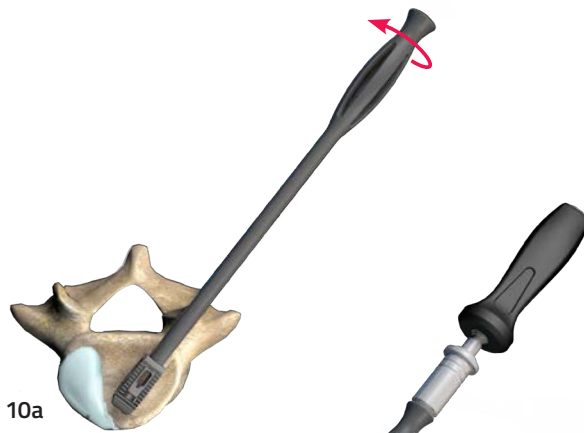

Fig. 10a
2. Attach the **Implant Remover (28-1003)** to the spacer by screwing it into the spacer as shown in **(Fig 10a)**.